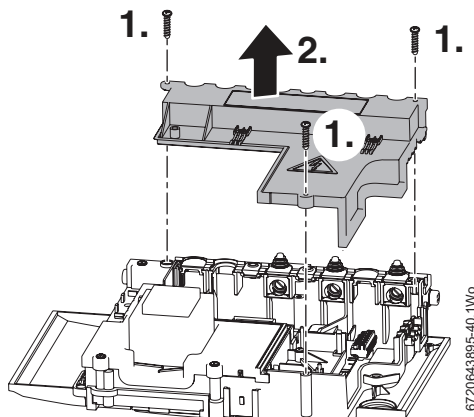

Fig. 57 Removing the connection cover
1. Referring to figure 57, unscrew the three screws in the control panel.